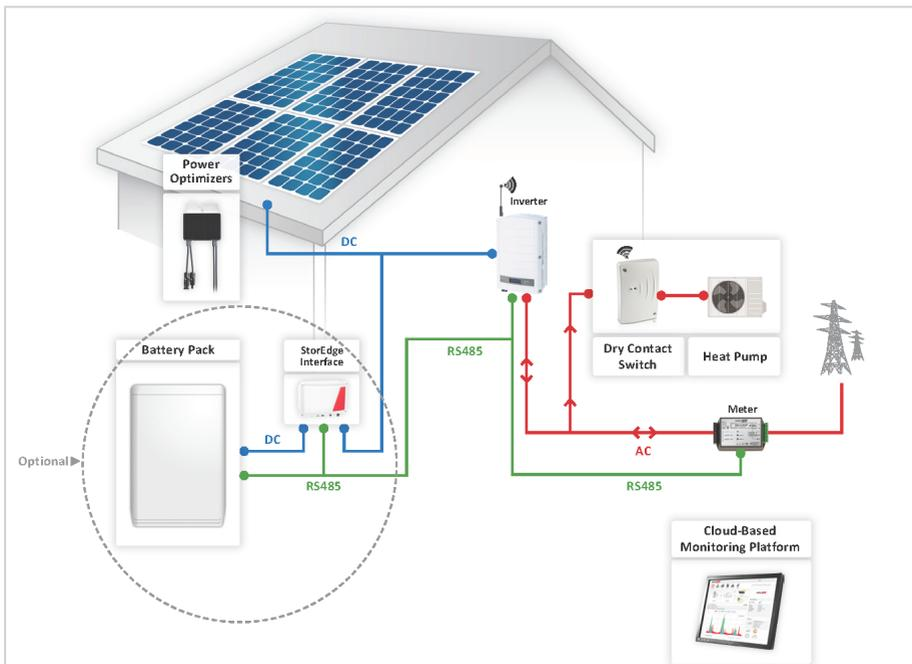

Figure 1: SolarEdge System with Dry-Contact switch
6. Press the association button on the Dry-Contact switch (see *Figure 1*).